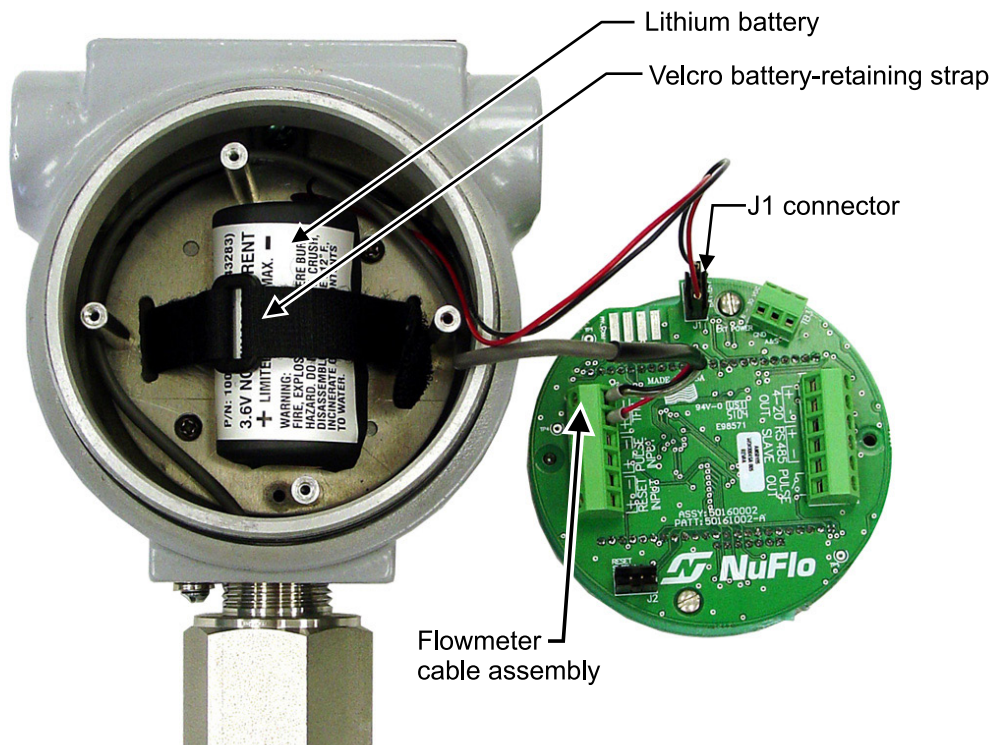

Figure 6.2— Removal/replacement of lithium battery
4. Loosen the velcro strap, disconnect the battery from the J1 connector on the circuit assembly, and remove the battery from the enclosure (Figure 6.2).